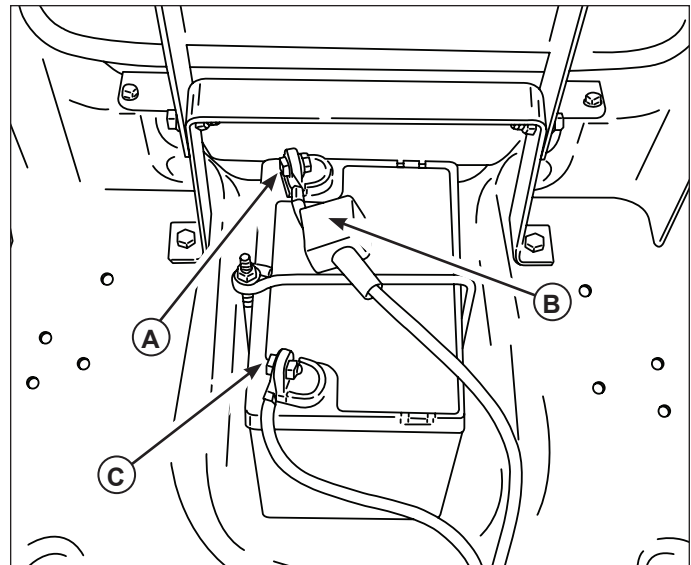

Figure 30. Battery Compartment
1. Disconnect the cables from the battery, negative cable first (**C**, Figure 30).